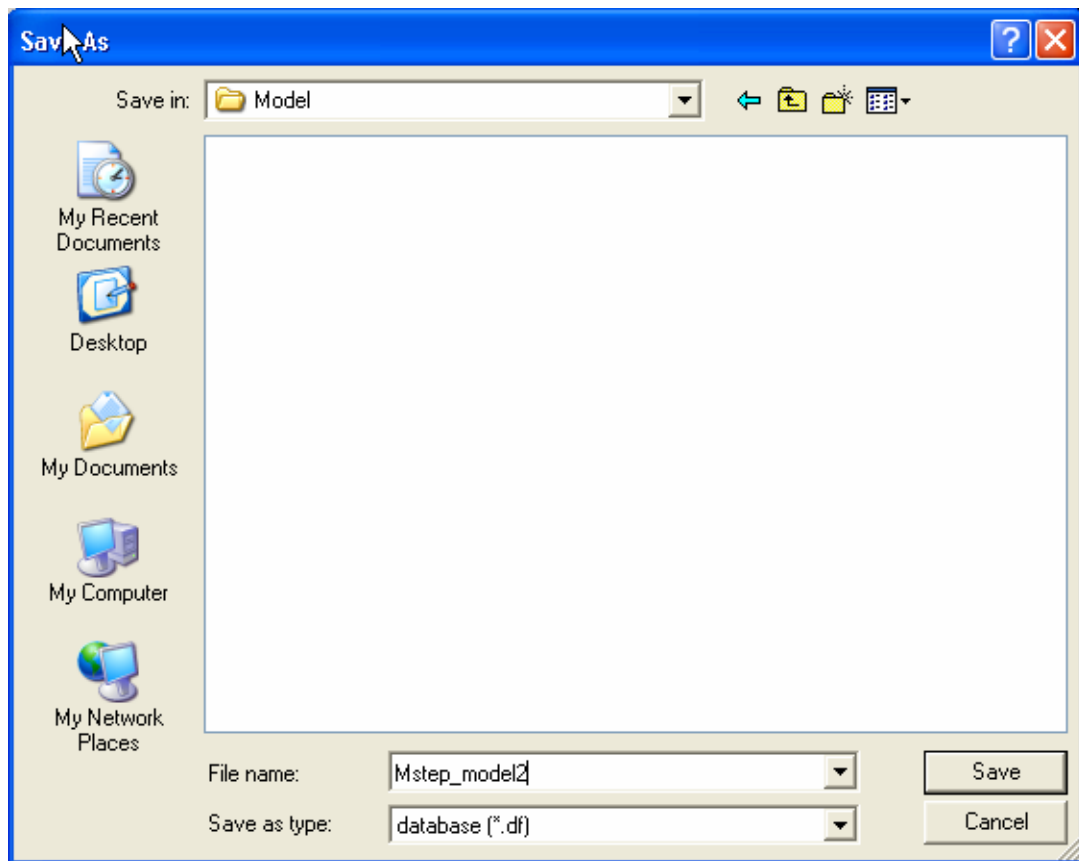

Figure 3.4: Save as dialog box
2. Save the database file in a specified working directory. Select menu **File**→**Save as** or click the SAVE icon , input "MSTEP_model2.df", then select "save" to save it and exit the dialogue window. See figure 3.4.